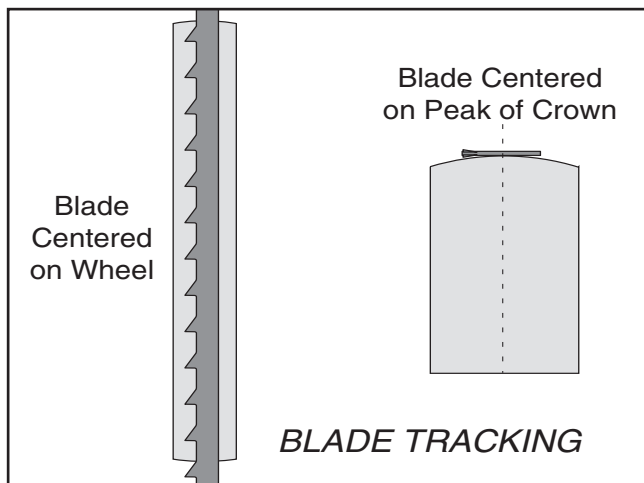

Figure 7. Blade tracking profiles.
4. Spin the upper wheel by hand at least three times and watch how the blade rides on the crown of the wheel. Refer to **Figure 7** for an illustration of this concept.